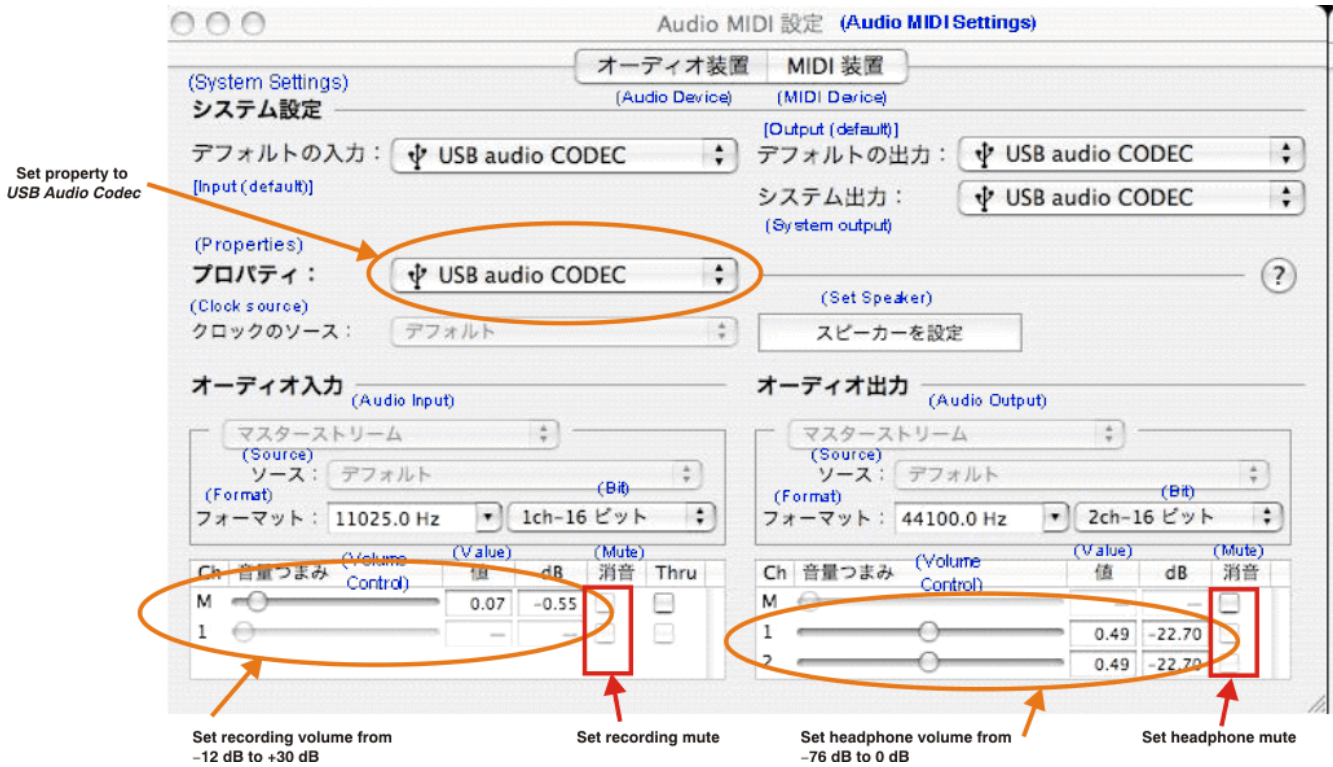

Figure 3-9. Audio Midi Setting Window (Mac OS)
1. Open the *Audio MIDI Settings* options (*Application*→*Utility*→*Set Audio MIDI*), as illustrated in Figure 3-9. Alternatively, open the *Output* tab of the *Sound* options, as illustrated in Figure 3-8.
1. Open the *Audio MIDI Settings* options (*Application*→*Utility*→*Set Audio MIDI*), as illustrated in Figure 3-9. Alternatively, open the *Input* tab of the *Sound* options, as illustrated in Figure 3-7.